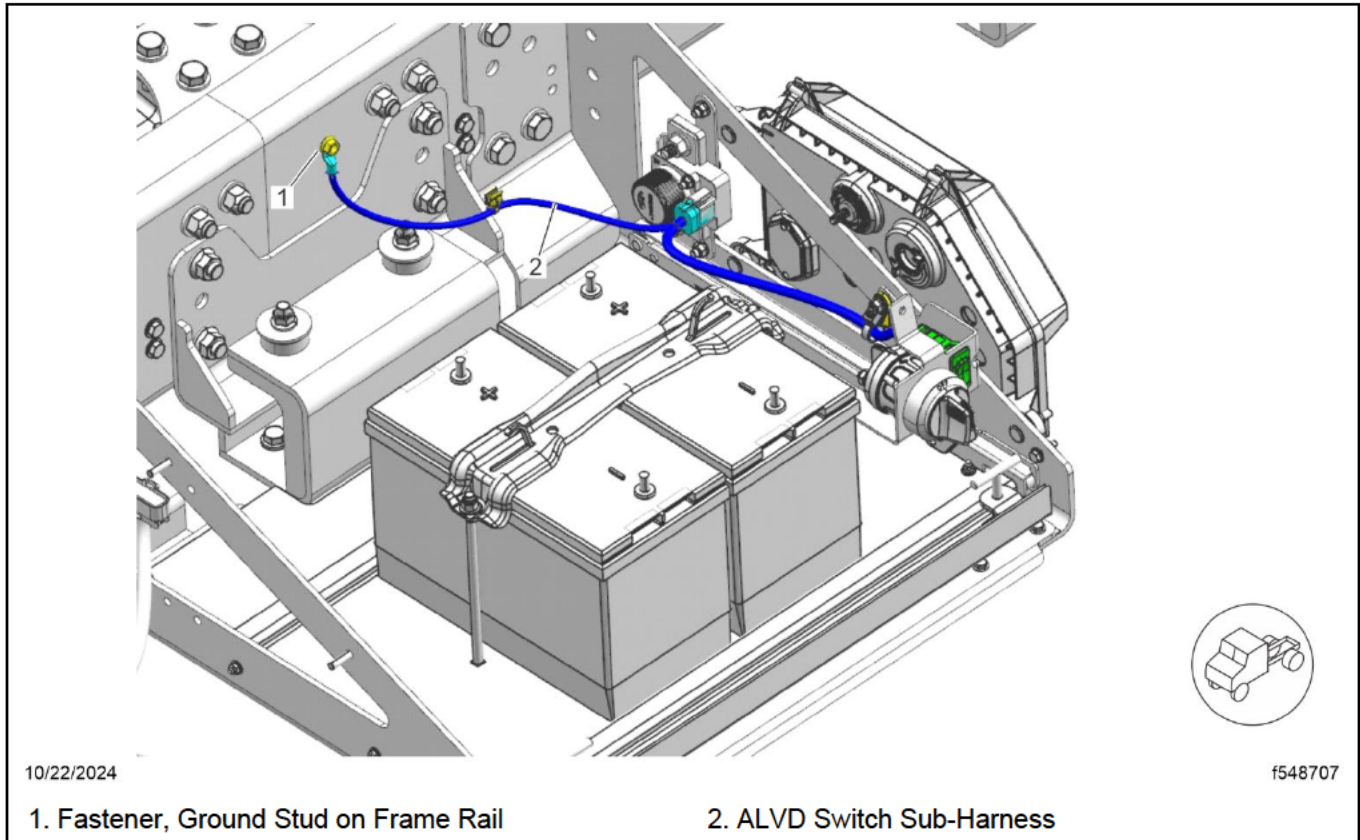

Fig. 9, Installation of the ALVD Switch Sub-Harness
21. Install the ALVD switch sub-harness. For detailed instructions, see **drawing D66-32710-000**. Tighten the ground stud fastener, item 1 in **Fig. 9**, on the frame rail 37 lbf-ft (50 N·m). Apply varnish to the ground stud.